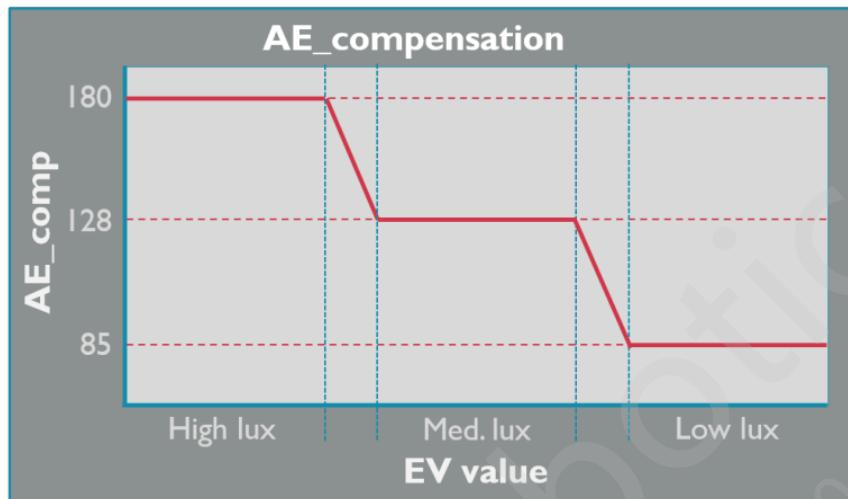

Figure 3.1-11 AE\_comp vs EV plot
AE\_comp; illuminance below 100 lux reduces the value of AE\_comp appropriately. After debugging the AE\_comp values under all illuminances, the graph shown in Figure 3.1-11 can be obtained.
- As Figure 3.1-11 shown, five nodes were created to define different illuminance ranges, which is far from enough, and further verification of AE under different illuminances is needed. For AE verification under each illuminance, the brightness value of each gray block needs to be analyzed through Imatest/Phototop/GIMP. If you still find that there is a value that falls outside the exposure range during the test, you need to repeat the above calibration steps. In the process of optimization, it is impossible to take into account all scenarios, and there will be problems of overlapping or conflicting parameters and nodes. In this case, it is necessary to choose according to specific needs.